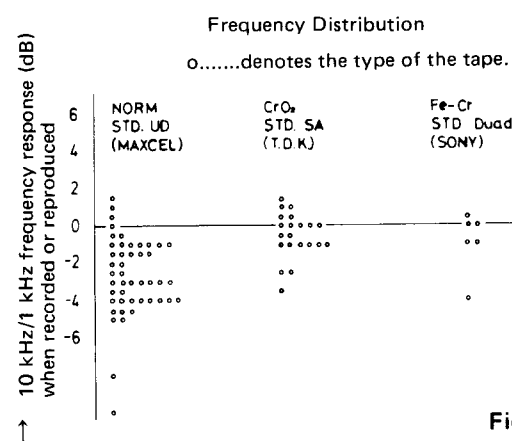

Fig. 2
As seen in Fig. 2 (with each tape having its optimum bias current set), this bias current is determined by taking into account the high-band molecular characteristic and distortion rate of the particular tape. Equalization level must then be set to obtain a flat molecular
7. As shown in Fig. 2, the tape is rewound to the position at the 1.5 sec lapse from the beginning of recording; see item 6.